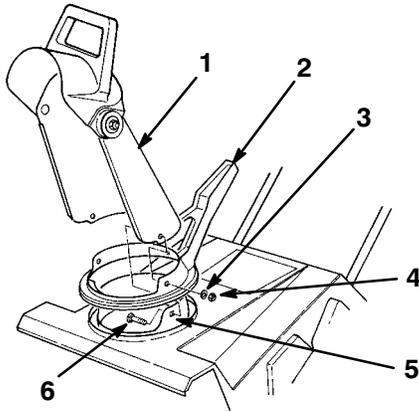

Figure 4
1. Place the chute handle over the chute ring (Fig. 4).
2. Insert the discharge chute between the chute ring and the chute handle and align the holes (Fig. 4).
3. Secure the back of the chute and the handle to the center hole in the chute ring with a carriage bolt, a washer, and a locknut (Fig. 4).